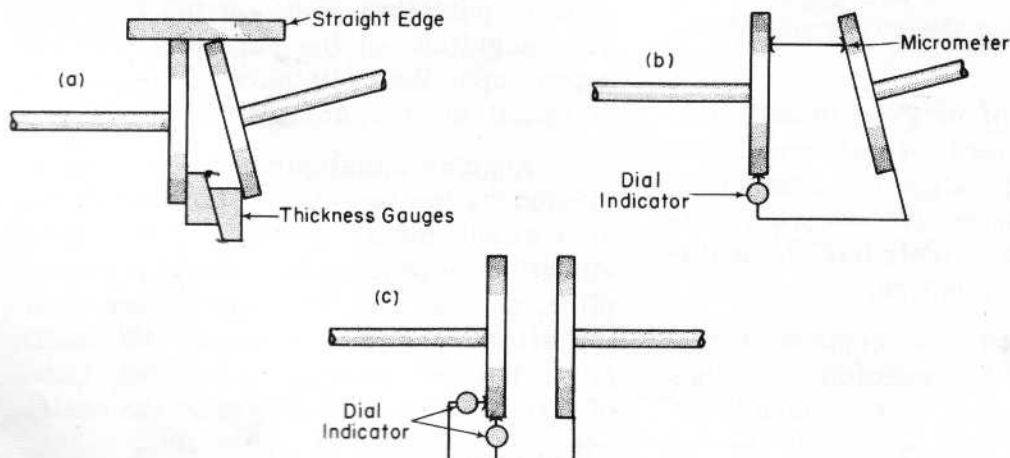

Fig. 2 - Methods Of Shaft Alignment
Three possible methods to check shaft alignment are shown in Fig. 2, a, b and c. These methods respectively are:
a) straight edge and thickness gauge, b) dial indicator and micrometer, and c) the recommended method using two dial indicators. The plunger of one indicator shown in Fig. 2 c, is parallel to the shaft with its button resting on the coupling face at a radius equal to or greater than the coupling disc. The plunger of the other indicator is at right angles to the shaft, with its button resting on the rim of the coupling.